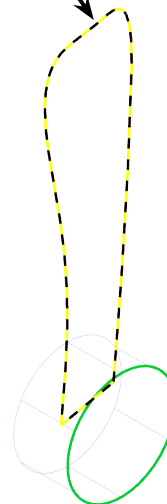

Fig. 18
Step 3. **Shift click** spline to chain blade entities and click End Selection  (ENTER), **Fig. 18**.